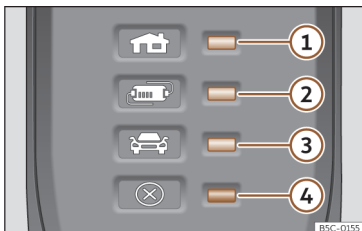

Fig. 66 On the charging cable for power sockets: Indicator lamps on the protection device.
>>> **Fig. 66:**
The electronic protection device >>> **Fig. 66** ensures that the charging connector does not receive current until it is plugged in to the vehicle's charging connector.
One or more control lamps >>> **Fig. 66** ①, ② or ③ light up green.
Display >>> Fig. 66	Meaning
①, ④ flashing	The housing connector has overheated.
②, ④ flashing	The protection device has overheated.
If the charging process continues with a lower current, both the operating indicator and the warning lamp >>> **Fig. 66** ④ flash red.
- If it disconnects again, or the charging current reduces and the cause does not seem to be exposure to an external heat source, make sure that the green control lamp is flashing >>> **Fig. 66**. Visit a specialised CUPRA dealer or any SEAT network dealer to check the charging cable. Get an establishment that specialises in electrical installations to check the infrastructure connection.
If the red warning light ④ flashes or turns on without one of the indicator lamps >>> Fig. 66 ①, ② or ③ also turning on continuously on the status indicator, there is a fault.